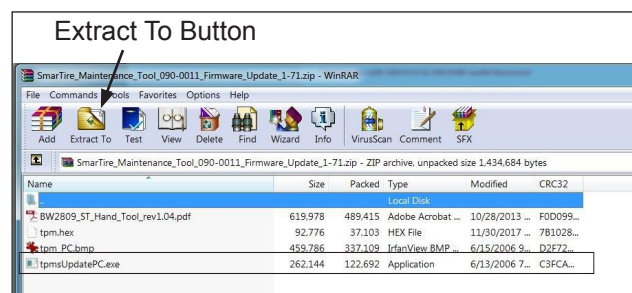

Figure 2 – Maintenance Tool Software Startup
- b. Select the Open button, then the Allow button. The window shown in Figure 2 will open.
2. When the download is complete, go to this file location on the computer and open this folder. Select **tpmsUpdatePC (.exe)** to execute the software update. **Note, this file will not execute correctly from the window shown in Figure 2.**